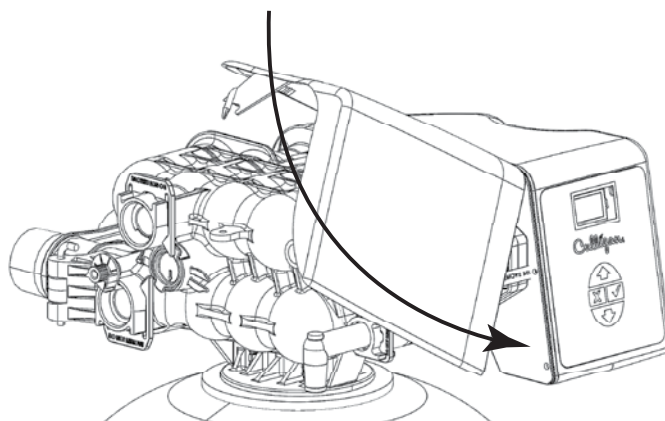

Figure 15. Reattaching the HE softener cover.
2. Rotate the cover downward inserting the two pins on the side of the cover into the two holes on side of the frame. See Figure 15.